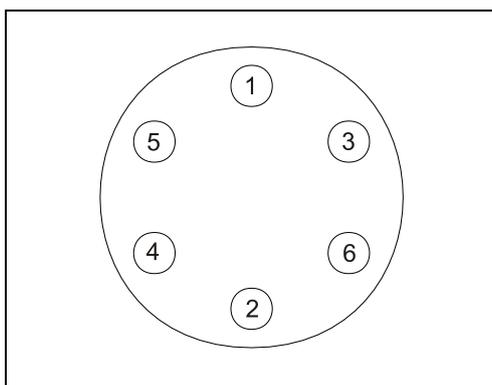

Figure 2. Bolt tightening sequence
17. Close the cleaning opening. Tighten the bolts at a torque of no more than 50 Nm, in order to avoid damage to the tank. Use suitable tools for this. When tightening the bolts, stick to the sequence as shown in Figure 2.